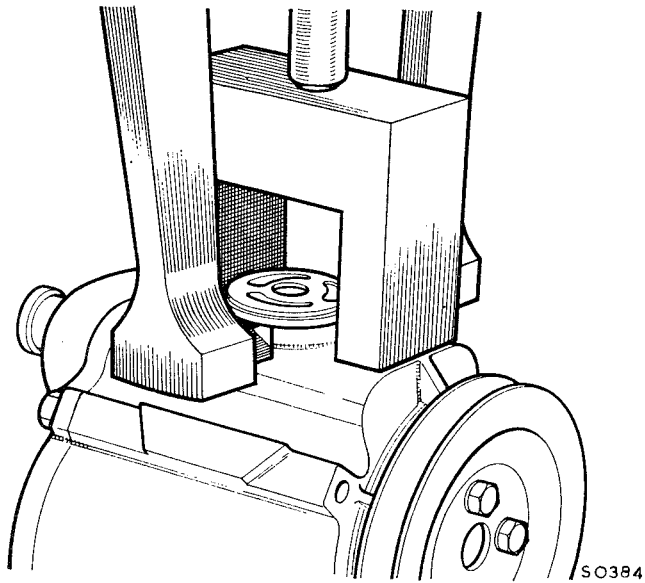

Fig. 8
- (1) Remove the air pump.
- (2) Using a gear puller and a fabricated bridge as shown in Fig. 8, withdraw the relief valve from the pump body.